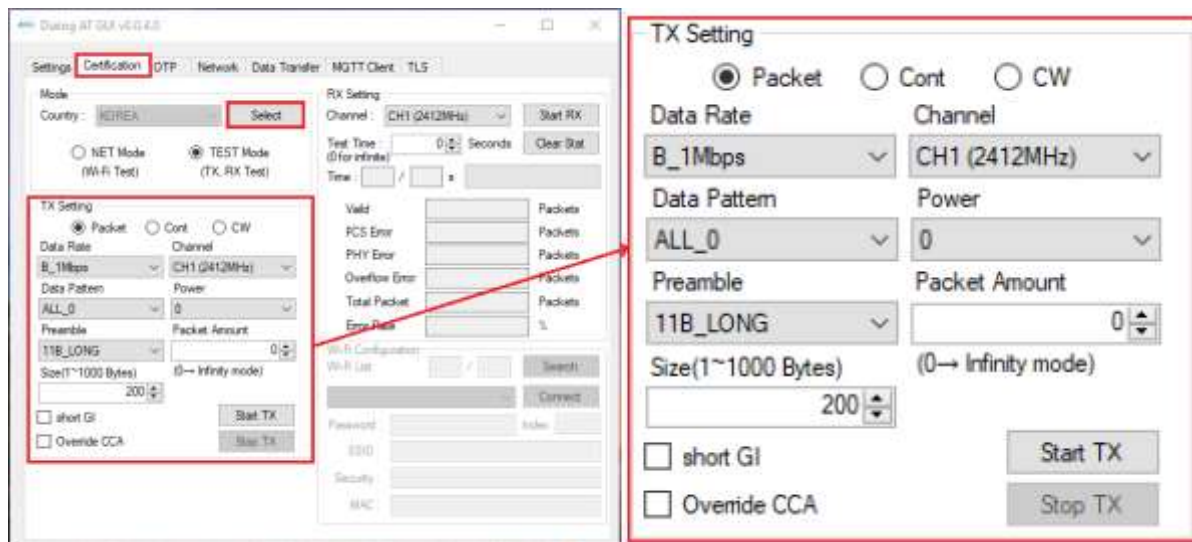

Figure 8: TX Test Mode Configuration
1. Open the **Certification Mode** tab. See Figure 8.
2. Under **Mode**, click the **Select** button (Figure 8). A confirmation message is shown as in Figure 9. This is a normal state.